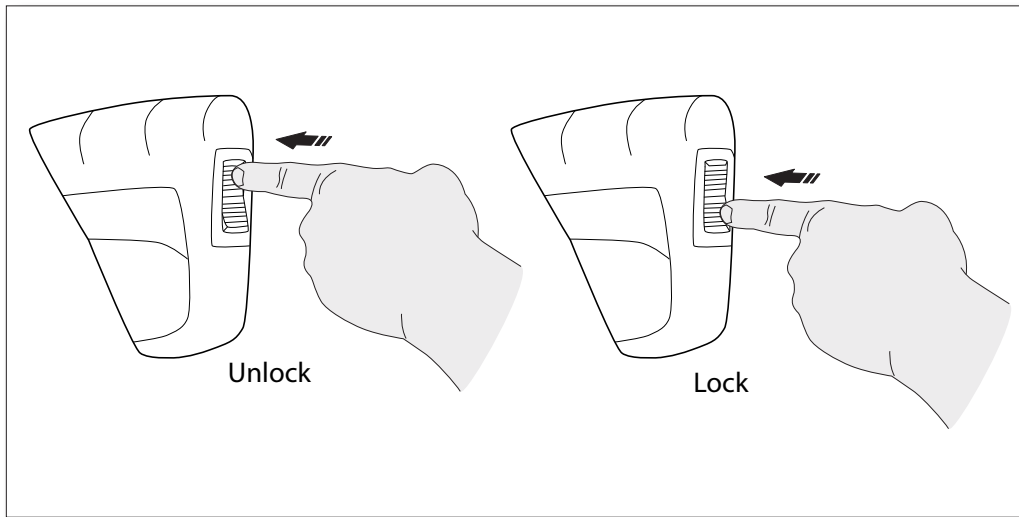

Fig. 20
- Release the safety lock button on the spray gun by pressing the safety lock button from right to left (**Fig. 20**). While pointing the spray gun in a safe direction, squeeze the trigger on the spray gun until there is a steady stream of water, letting the water and air out of the hose.